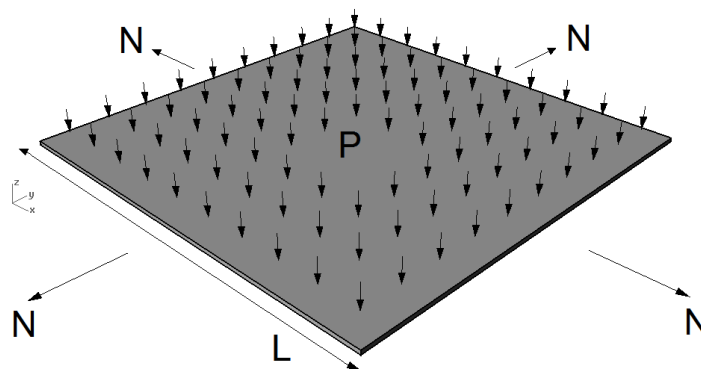

Figure 2
2. The general equation for the deflection of a thin stretched membrane due to applied pressure, such as shown in Figure 2, can be expressed as the following differential equation: